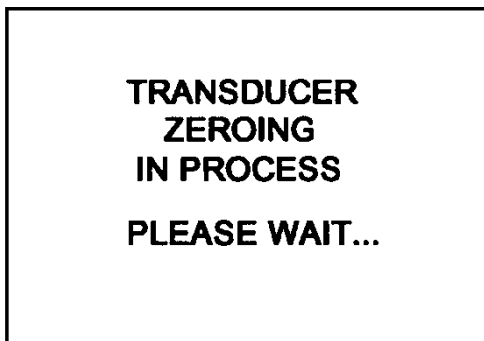

Figure 10
- 13.4.2.5 Press the front panel ZERO key and verify that the display changes to "TRANSDUCER ZEROING IN PROCESS PLEASE WAIT..." per Figure 10, for approximately 5 seconds.